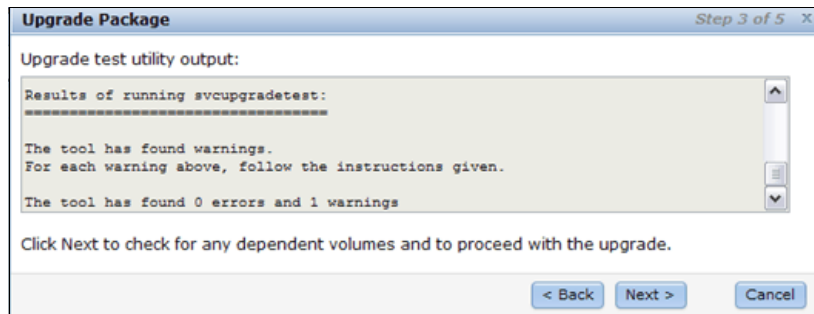

Figure 13-20 Step 3 of 5 - Run upgrade test utility
8. Click the **Download** link to download the latest upgrade package from the web server. If your web browser is behind a firewall or does not have Internet access, download the package manually to your PC or laptop, as shown in Figure 13-20.